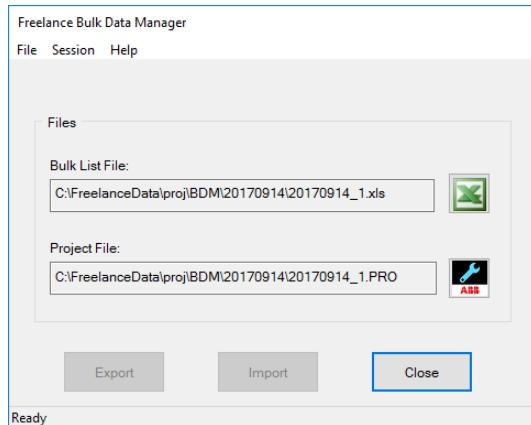

Figure 10. BDM main dialog
2. The **Freelance Bulk data manager** window opens as shown in Figure 10.